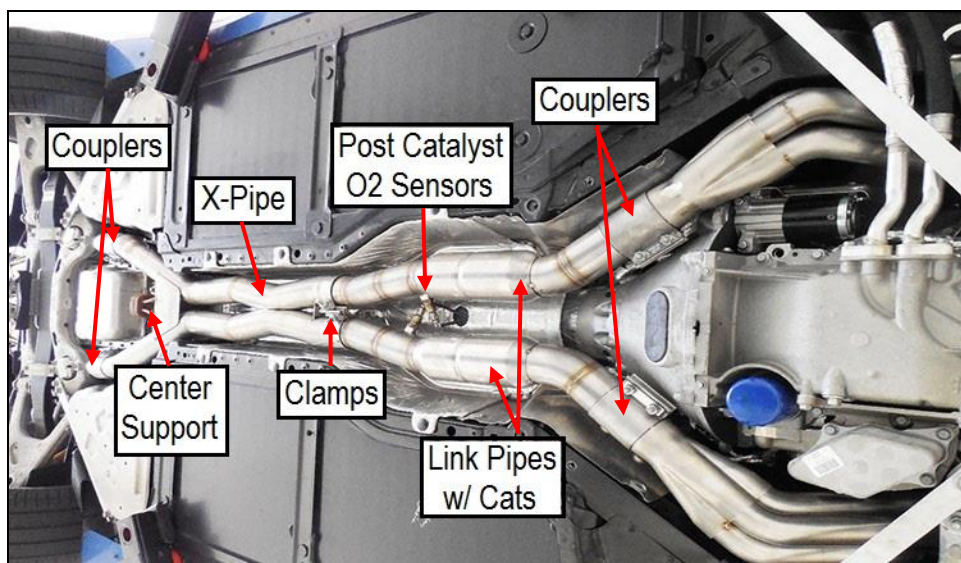

Figure 1
4. Install the 76mm band clamps on to each inlet pipe of the Blackheart X-pipe (expanded end with notches). The clamps need to be configured so the threaded stud of the clamp is positioned to align with the cut out in the lower skid plate (**Figure 1**).
5. Install the **RIGHT** cat link pipe or non-cat link pipe (long link pipe) into the X-pipes short expanded end. (**Figure 1**). Tighten the clamp to allow for adjustment.
6. Install the **LEFT** cat link pipe or non-cat link pipe (short link pipe) into the X-pipes long expanded end (**Figure 1**). Tighten the clamp to allow for adjustment.